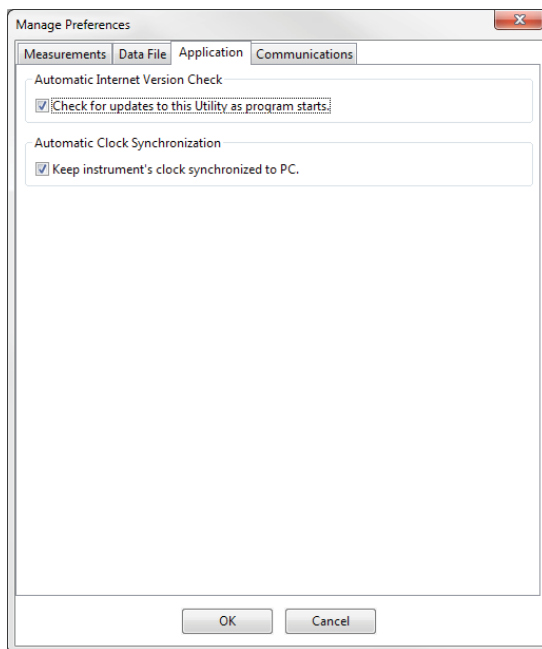

Figure 15 Application tab
- Application tab (Figure 15):